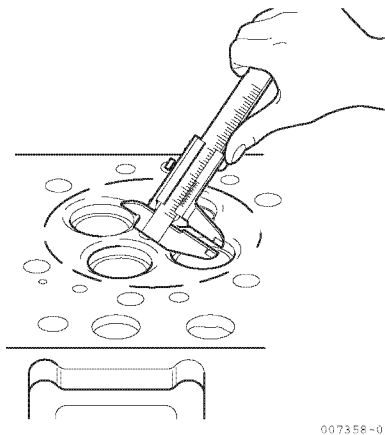

Figure 5-65
- Check the intake / exhaust valve seats. Check the surface and width of the valve seats. If they are too wide, or if the surfaces are rough, correct to the following standards (**Figure 5-65**):